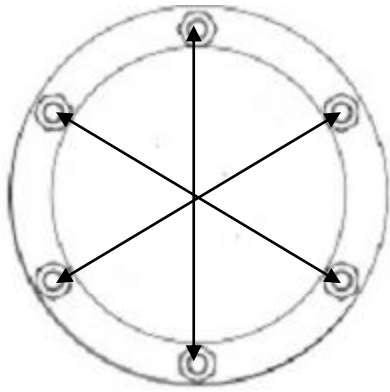

Figure 2
- Loosen the nuts A, Figure 1, on the clutch in a crossing pattern, Figure 2, until the clutch discs are loose but the bolts still hold them in place. Do not remove the nuts from the bolts.